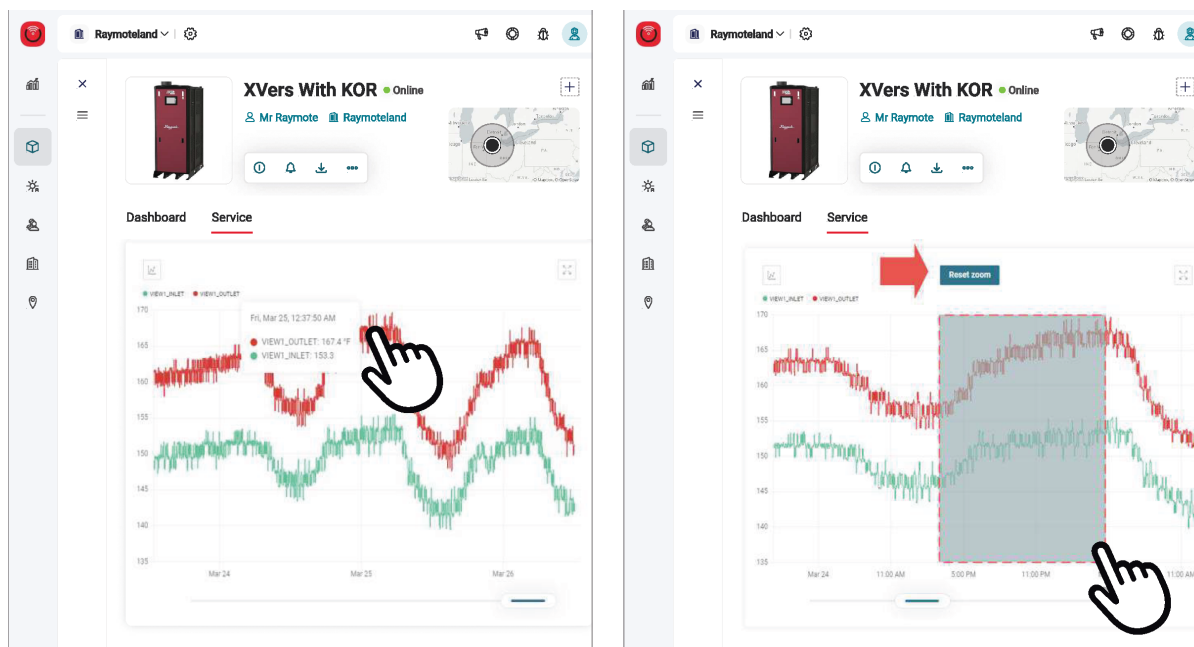

Figure 73. Data Streams
3. On the left panel under "Data streams" type key words to display and select up to 6 signals to be include on the graph. See **Figure 73**.
4. Move the cursor over the graph area to display signals values of a given time. See **Figure 73**.
6. Graph will update in the specified time frame. A "Reset zoom" button will become available on top of the graph to go back. See **Figure 73**.